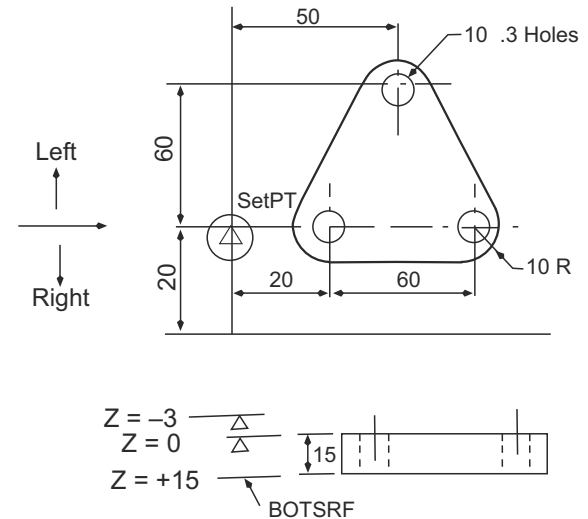

Fig 2
- Q.36 Prepare a Part Program for the Part shows in Fig 2 Given below using both the tools of Mill and Drill. Assume the thickness of Plate = 15 units and Setpt at (0, 20, 0) and Z = 0 at the surface of the job.